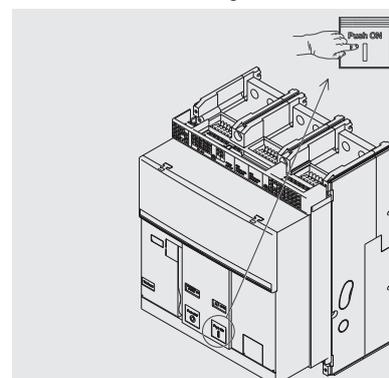

Figure 41
4. Closing - Press the closing pushbutton "I - Push ON" as indicated in Figure 41.